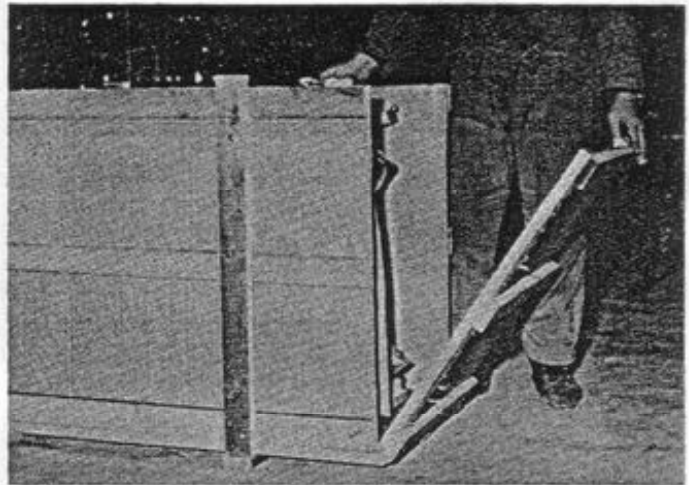

fig. 3
- c. Remove box containing seat, front wheel and fender and remove front end of paking case. (Fig. 3).